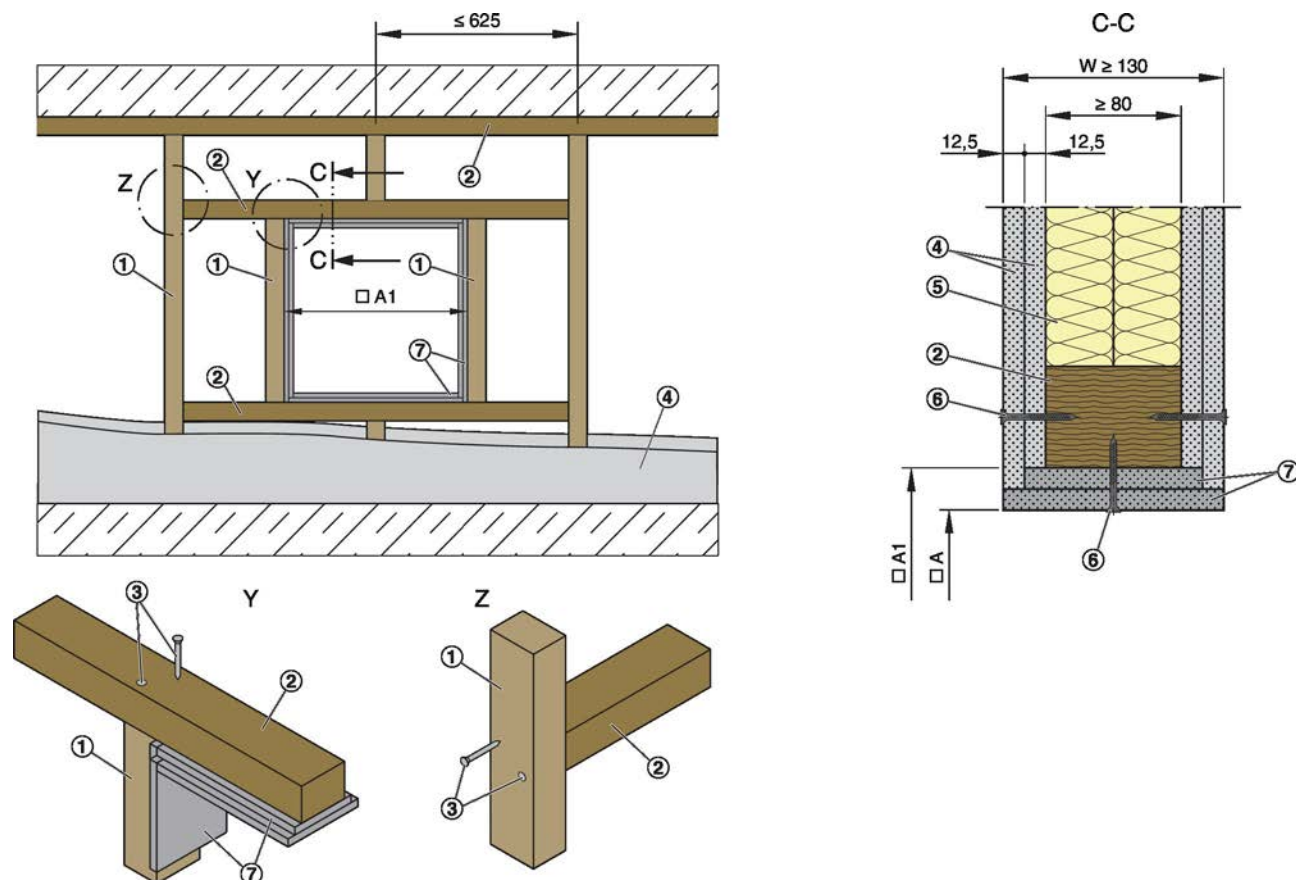
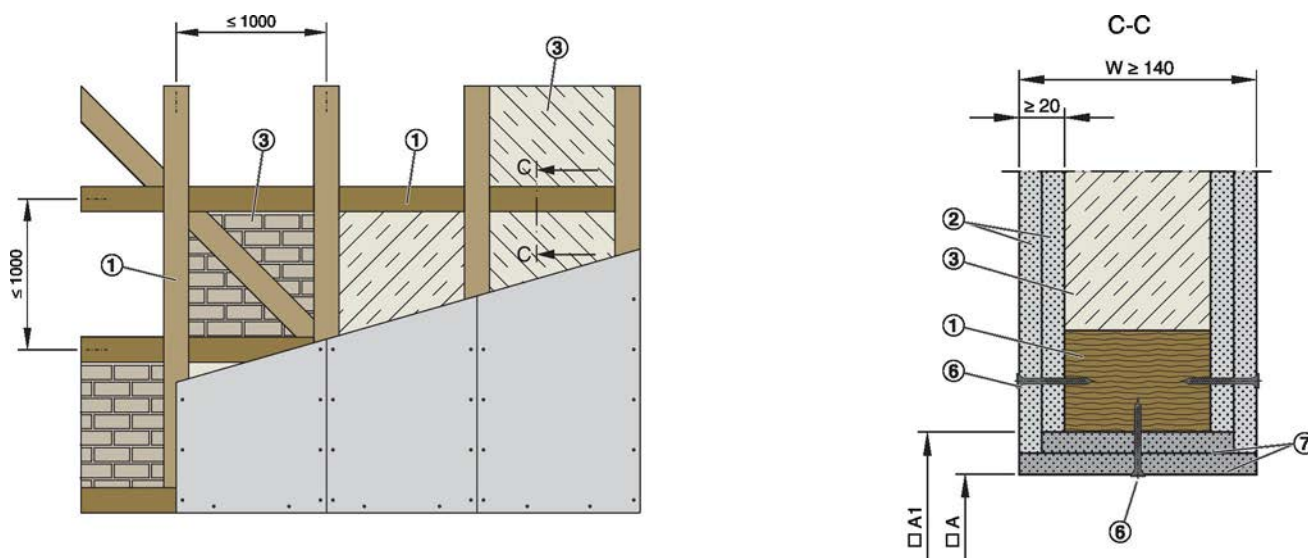

Fig. 39: Lightweight partition wall with timber support structure and cladding on one side
Fig. 40: Lightweight partition wall, half-timbered construction with cladding on both sides
- Create an installation opening in the timber support structure with timber studs ①, horizontal timber sections ② and trim panels ⑦; or create an installation opening in the half-timbered construction ① with trim panels ⑦, see Fig. 39 or Fig. 40.